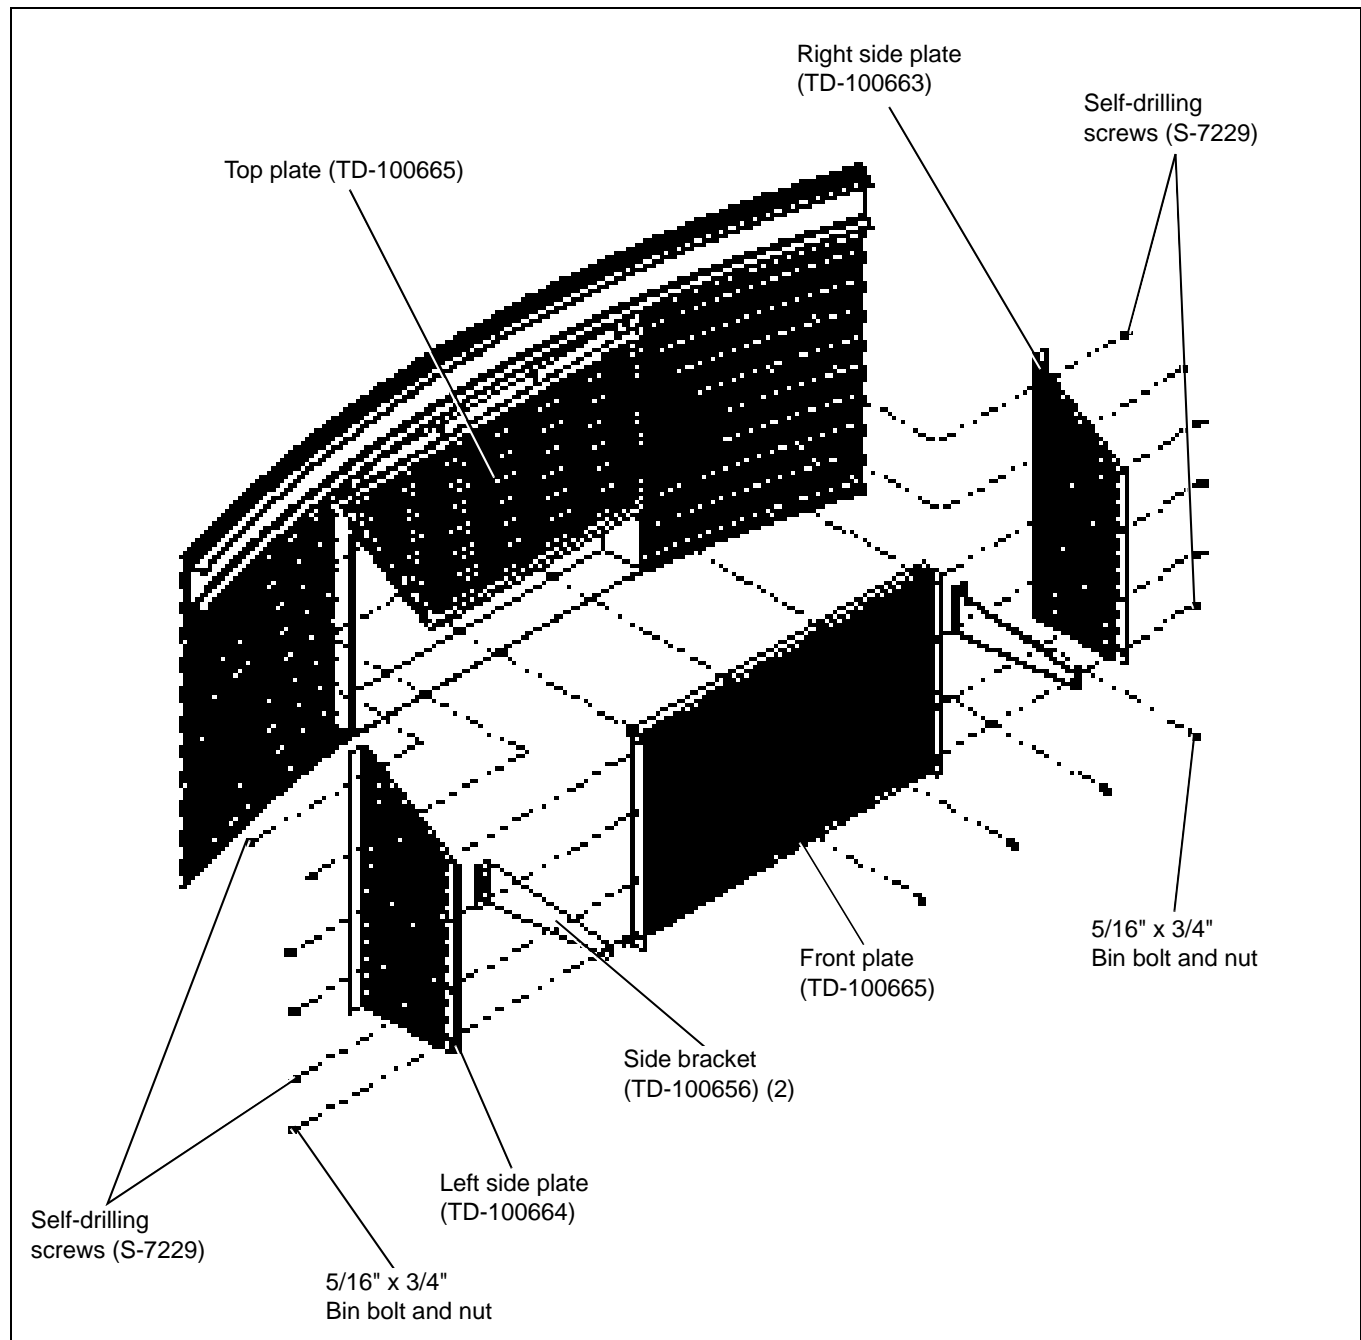

Figure 9J
Position the side plates on each side with the angle outward and fasten in place using six (6) 1/4" x 1" self-drilling screws. (See Figure 9J.)